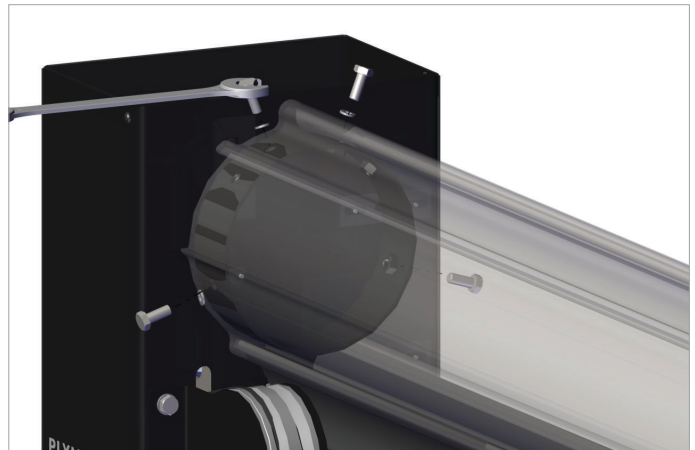

Fig. 5.3.2 Mounting the motor compartment to the rail
- Mount the motor compartment to one end of the rail, and secure with 6x M8x20 bolts and 6x M8 washers using wrench 13 (1/2 in.). Refer to fig. 5.3.2.